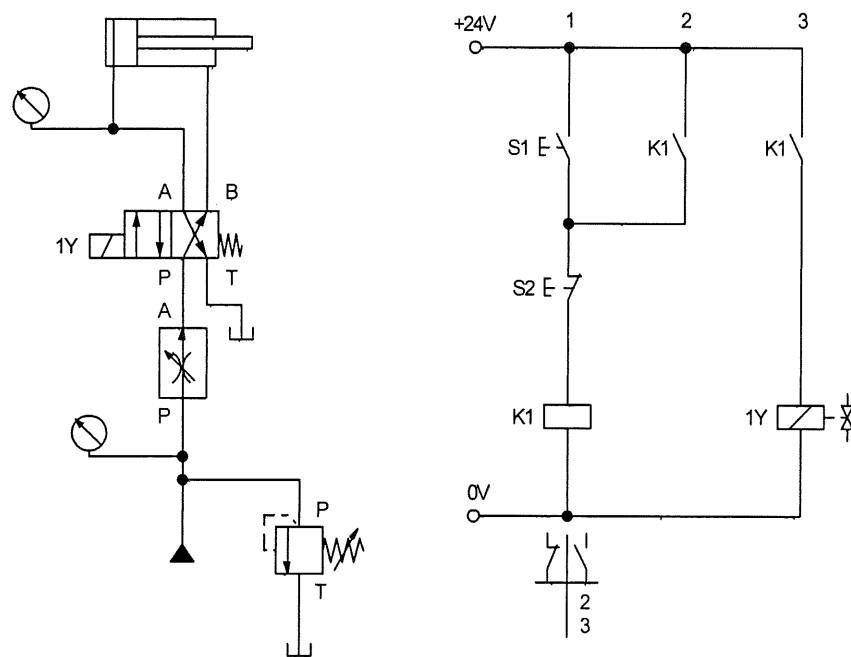

Figure 2
- b) Figure 2 below shows an electro hydraulic circuit for a particular system. Analyze this circuit by giving a step by step explanation on what will happen to the relay coils, contact, valve and actuator when S1 and S2 button is pressed.